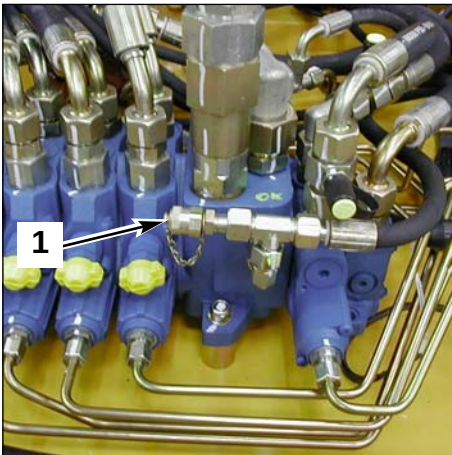

Fig. 1 SX14 valve block
- 2- Measure the pressure (1 fig. 1) using the manometer.